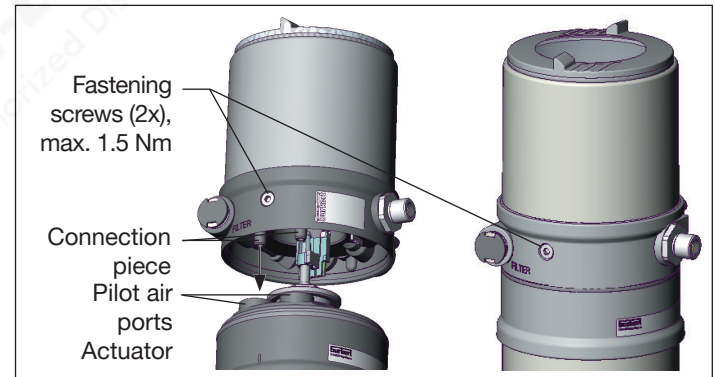

Fig. 16: Control unit installation
2. the connection pieces of the control unit enter into the pilot air connections of the actuator (see “Fig. 16”).